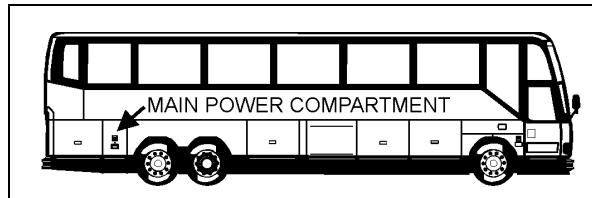

FIGURE 1
1. Open Main power compartment door (refer to figure 1).